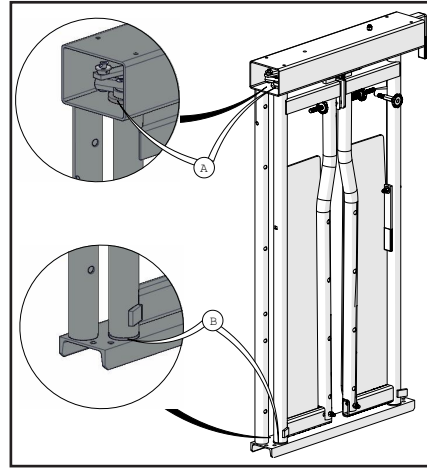

Figure 9: Headgate door bushings
2. The headgate has four UHMW bushings, one on the top of each door (a) and one on the bottom of each door (b) (Figure 9).